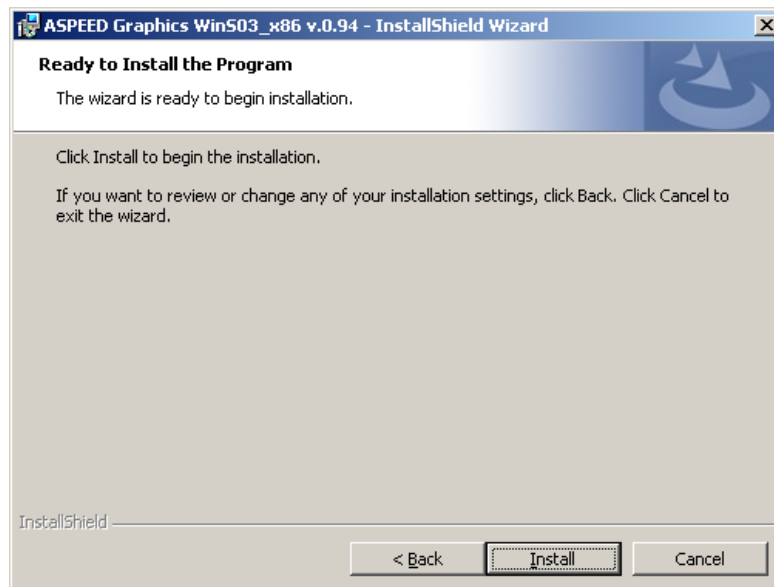

Figure 6-12: Graphics Driver Installation Finish Screen
Step 9: When the driver installation is complete, the screen in Figure 6-12 appears.